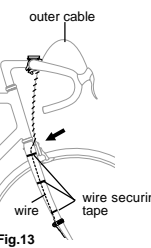

Fig. 13
- Secure the wire with tape as fig. 13. Wind the wire round the outer cable and adjust length. Loosen the wire in the area marked with the arrow so that the wire does not hinder handlebar operation.